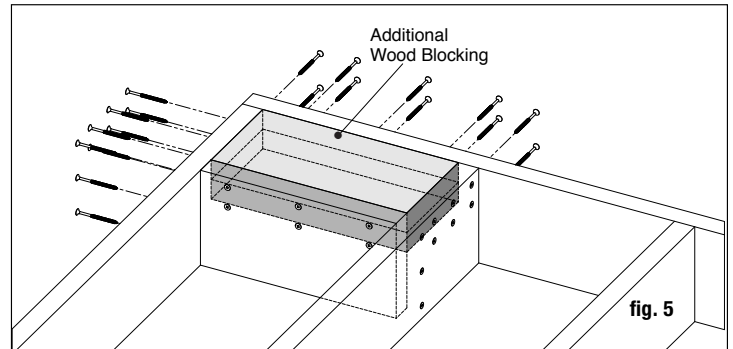

fig. 5
Step 2 Installing Posts: Install posts by attaching the aluminum base to the surface of the deck. Position the post so the fastener will go into the floor joist, and make sure the decking is firmly attached to the joist at the location of the posts. Proper structural blocking/framing under the decking material is required when attaching the post to a wood frame deck because decking alone is not approved as structural framing (fig. 5).